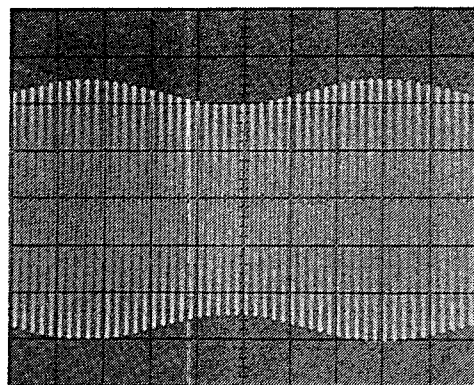

Figure 4-37 Phase Jitter Amplitude to Phase Conversion Waveform Diagram
33. Adjust the Function Generator A.M. controls to produce a 10% amplitude modulated signal displayed on the Oscilloscope as shown in Figure 4-37.